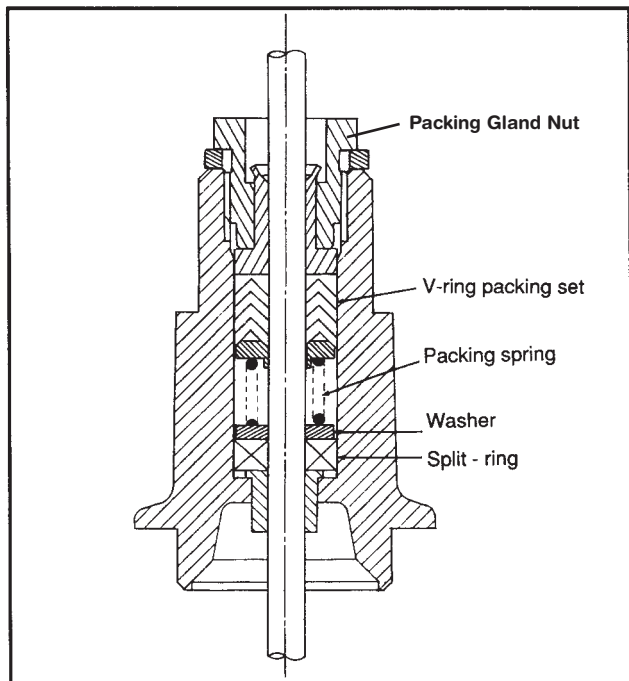

Figure 1. V-Ring and Split Ring Packing
- The packing parts must be installed in the exact order shown in Figure 1. Place split ring (split ring must be lubricated), washer, and spring over the stem and gently push each piece into the packing chamber.
10. With the valve stem held in the closed position, carefully place a packing ring, the packing spacer, and the remaining three packing rings over the stem in the order shown (Figure 1). Individually tap each packing ring into the bonnet as far as possible.